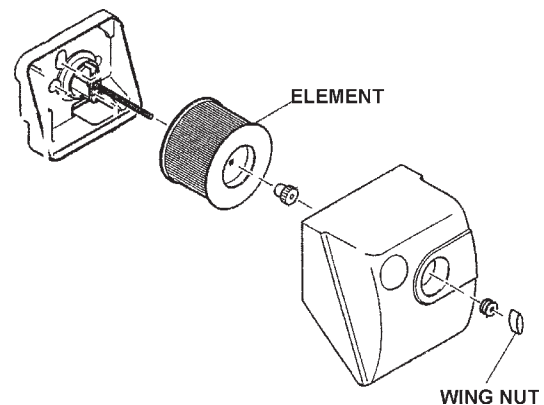

Figure 15. Engine Air Cleaner
1. Loosen the wing nut and detach the cover of the air cleaner shown in Figure 15.
2. Tap the element (Figure 15) several times on a hard surface to remove dirt, or blow compressed air [not exceeding 30 psi (207 kPa, 2.1 kgf/cm2)] through the element side. **NEVER** wash the element with detergent because the element is oil-soaked type. Replace the element when the output decreases or bad exhaust color is noticed.